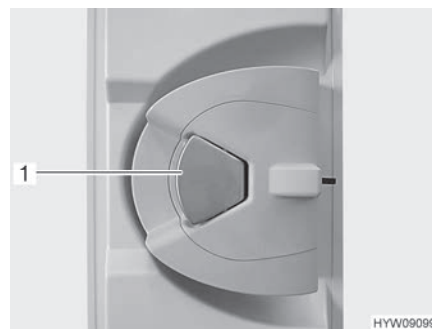

Fig. 32 Door lock (conversion door, inside)
*Opening:* ■ When the door lock is locked: Pull once at the door handle (Fig. 32,1). The door is unlocked.
■ Pull on the door handle (Fig. 32,1). The door is open.
*Locking:* ■ Push the door handle (Fig. 32,1).